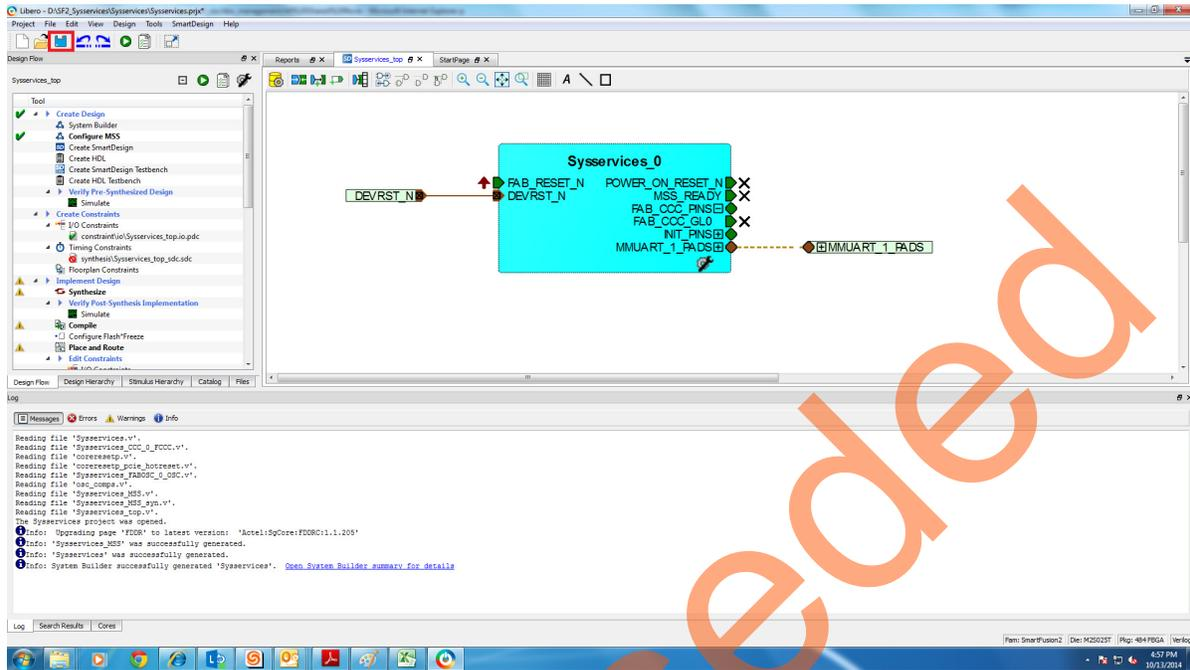

Figure 10 • Updating the Syssservices\_0
11. Select **File > Save** to save **Sysservices\_0**. Select the **Sysservices** tab on the Smart Design canvas, as shown in Figure 10.